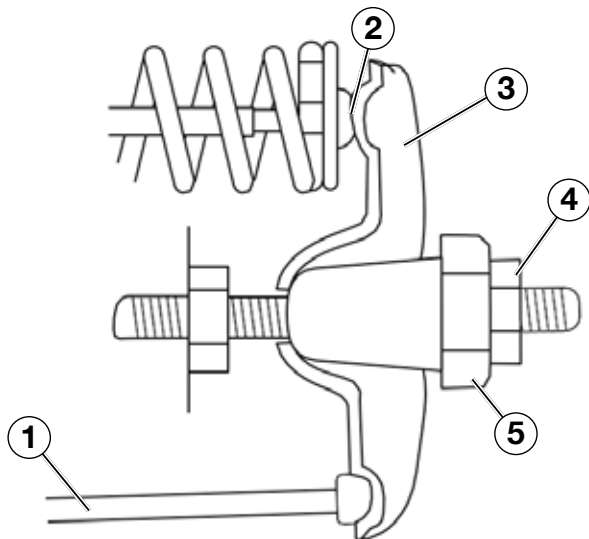

Figure 29
5. Insert a feeler gauge between the rocker arm and the push rod and check for clearance (see Figure 29). See Table 3 for valve lash specifications.